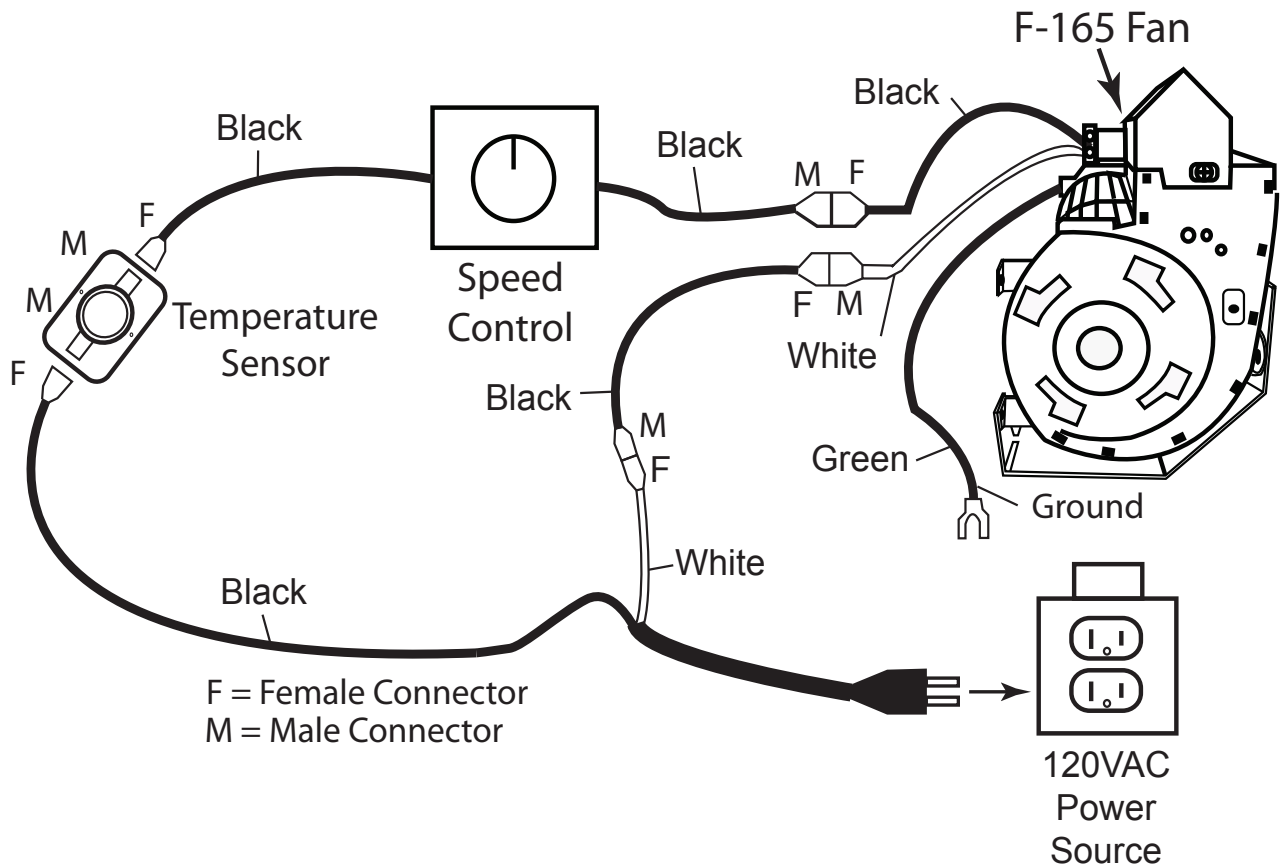

Fig. 7 Wiring Diagram
7. After properly wiring (Fig. 7) the FK-165-RT-M turn the 120VAC service to **ON** at the circuit breaker and turn your speed control to **ON**. **Note:** The temperature sensor will activate the fan when temperature at the sensor reaches 110°F. This may take 15 to 20 minutes. If after 30 minutes the fan does not turn ON then check wiring, ensure speed control is turned ON and ensure temperature sensor is against the combustion chamber. If sensor is laying directly on the base (floor) of the fireplace the fan may never turn ON.